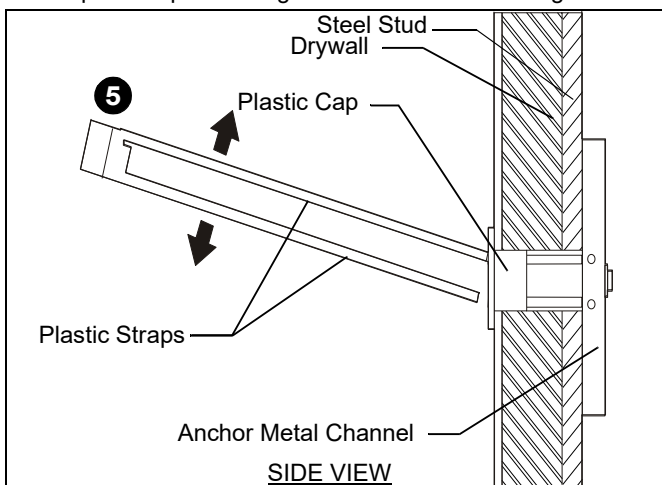

Figure 16
5. Snap off plastic straps on anchor at wall by pushing side to side, snapping off straps level with flange of plastic cap. (See Figure 16)